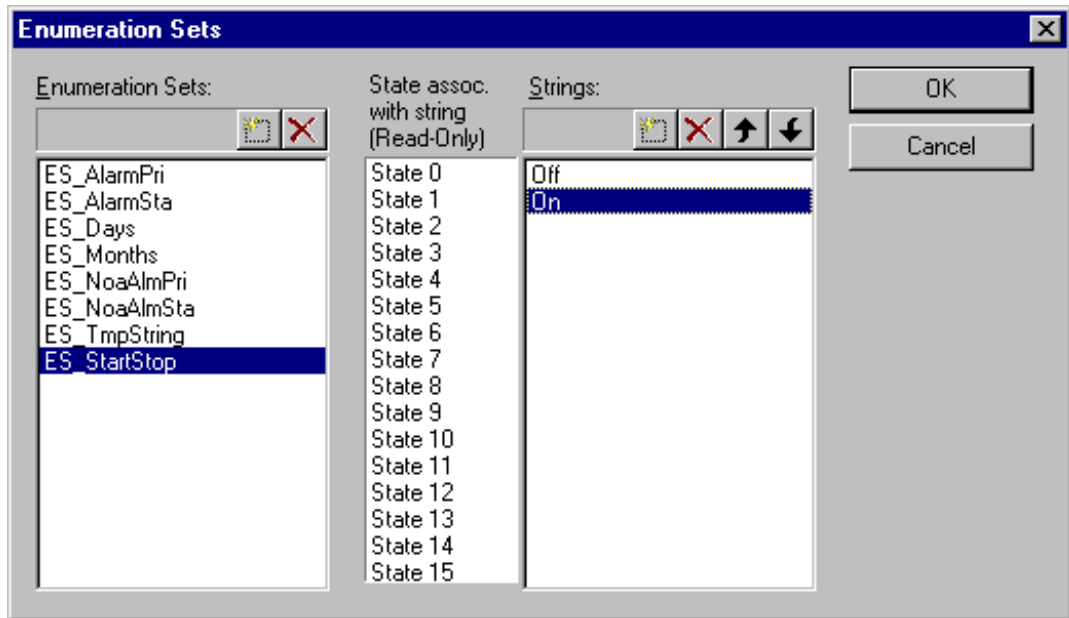

Figure 7-8: New Enumeration Set
13. Click OK when finished. See Figure 7-8 for an example of a user created enumeration set.